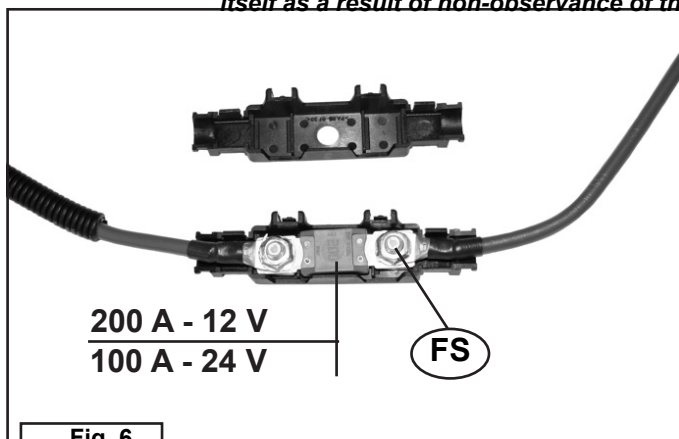

Fig. 6
- Main electric power supply fuse **FS** (Fig. 6);